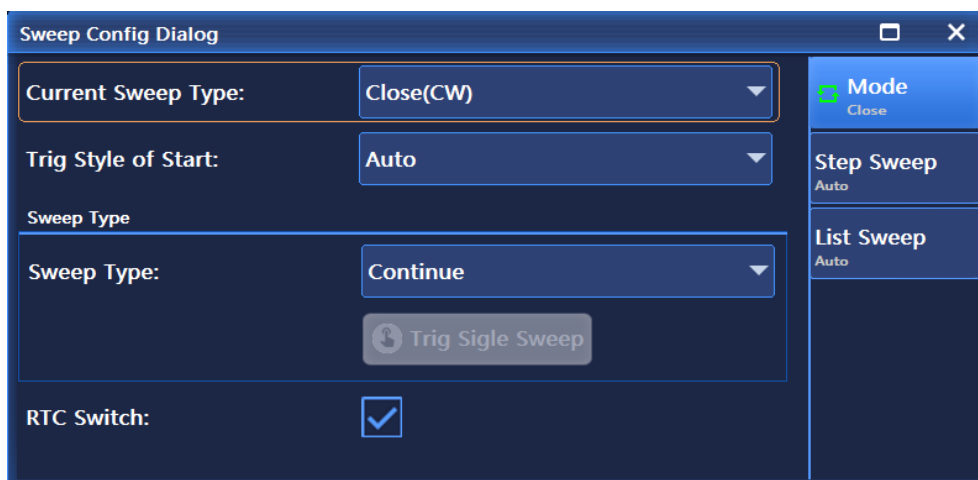

Figure 5.9 Sweep mode interface
As shown in Figure 5.9, the Mode interface is mainly used to set parameters including Current Sweep Type, Trig Style of Start, Sweep Type and RTC Switch, etc. Where, the Current Sweep Type options mainly includes Close (CW), Step Sweep and List Sweep. The Trig Style of Start options mainly include Auto, Bus, Ext and Key, and the Sweep Type options mainly include Continuous and Single.